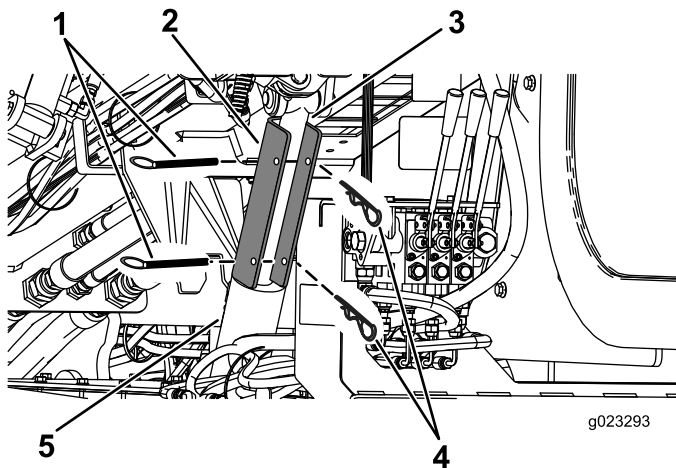

Figure 99
4. Position the cylinder lock over the cylinder rod (Figure 99).
5. Secure the cylinder lock with the cotter pin and clevis pin (Figure 99).
4. Remove the cotter pin and the clevis pin that secure the cylinder lock (Figure 99).